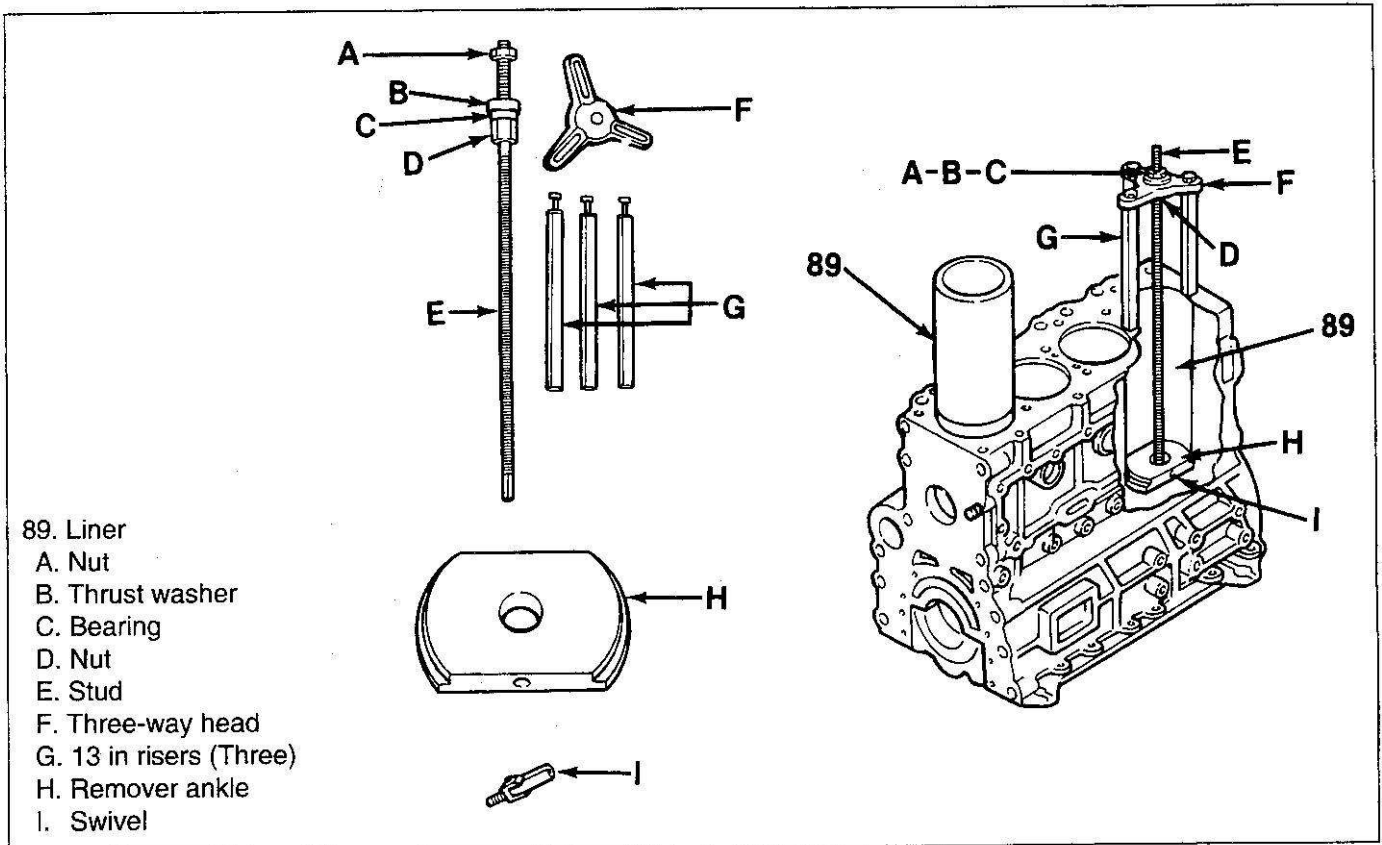
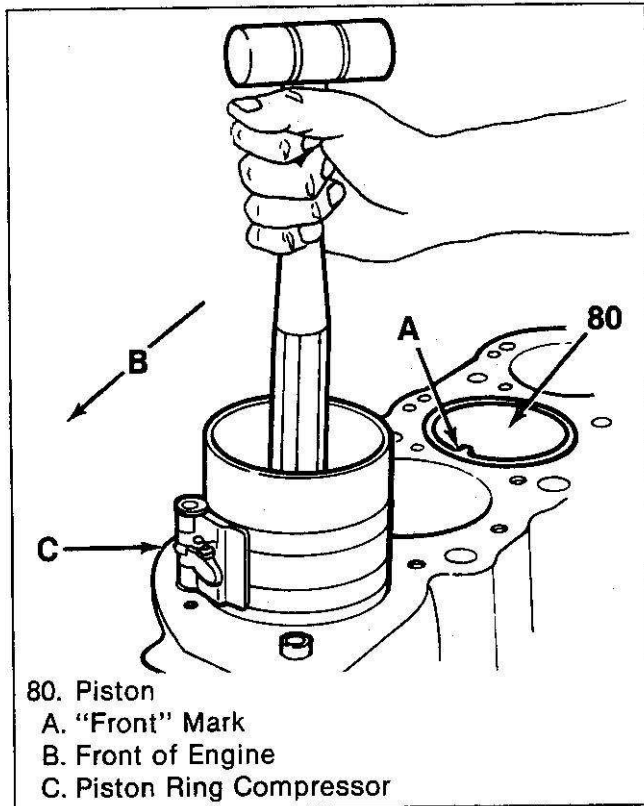

Figure 59. Cylinder Liner Removal
Figure 67. Installing the Piston
- Piston (80) for cracks and scoring.
- Liner (89) for scratches, cracks and scoring (figure 59).
- Connecting rod (81) and connecting rod cap (82) for cracks, damage etc.
- Piston pin bushing (85) for scoring.
(Figure 59)
8. Upper connecting rod bearing insert (86) to the connecting rod (81).
9. Lower connecting rod bearing insert (87) to the connecting rod cap (82).
10. Piston (80) and connecting rod (81) assembly to the proper liner (89) (figure 59).
- Lubricate the piston (80) and connecting rod bearing with engine oil.
- Push the piston into place (figure 67). Make the "front" marks face the front of the engine, as shown.